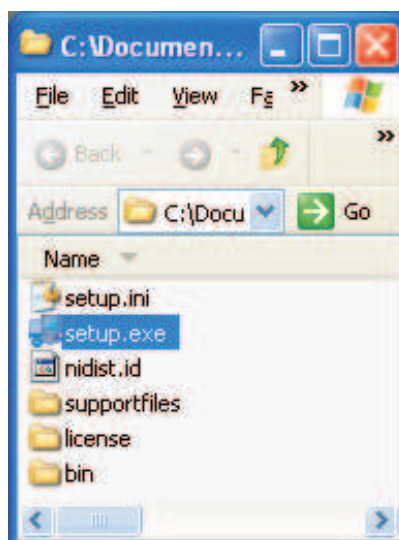

Figure 5. DAC5682 USB Control Software Installation CD Contents
The installation CD contains the files and folders shown in Figure 5.
1. Double-click the **setup.exe** file (Figure 5) to start the DAC5682z control software installation.